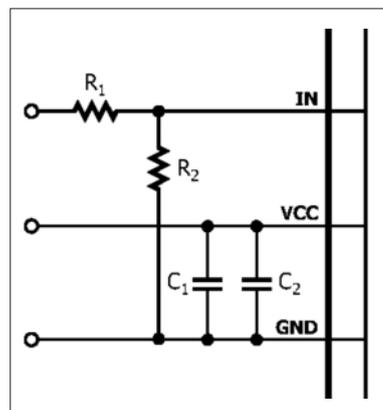
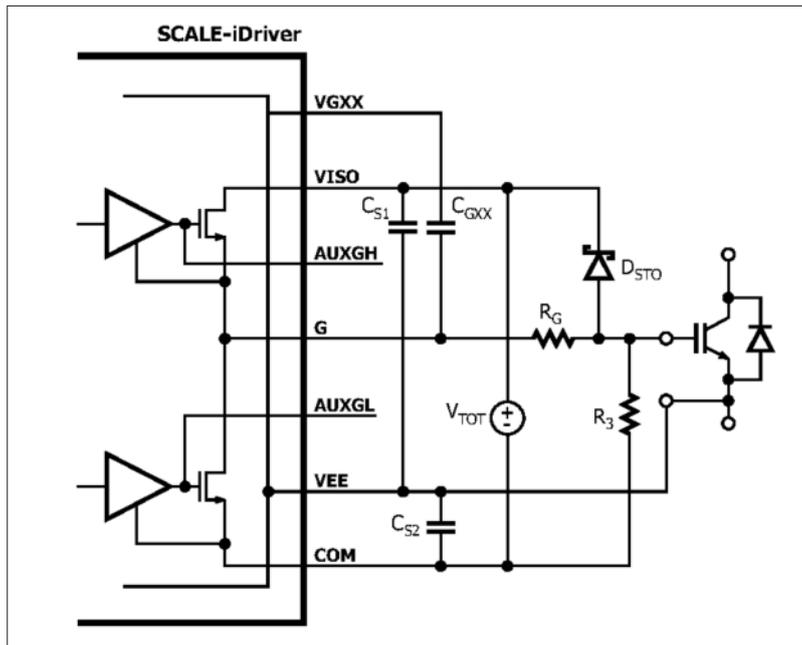

Figure 3: Recommended circuitry for increased IN logic levels (for  $R_1 = 3.3 \text{ k}\Omega$  and  $R_2 = 1 \text{ k}\Omega$  the IN Logic Level is 15 V)
Figure 4: SID1102K without external booster stage incorporating gate resistor RG
If the physical distance between the controller and the iDriver is large or if a different logic level is required, the resistive divider in Figure 3 is recommended. This solution adjusts the logic level as necessary and will also improve the driver's noise immunity.
The gate of the power semiconductor switch should be connected to the iDriver output via pin G, using a suitable gate resistor  $R_G$  as shown in Figure 4.
Figure 4 show the schematic and typical components used for a SID1102K design without a booster stage, in which the primary-side supply voltage ( $V_{CC}$ ) will be connected between VCC and GND pins and supported through supply bypass ceramic capacitors C1 (4.7  $\mu$ F typically) and C2 (470 nF typically). If the command signal voltage level is higher than the rated IN pin voltage, a resistive voltage divider should be used (Figure 3).
Additional capacitor CF can be used to provide input signal filtering as shown in Figure 4. The filter time  $\tau$  can be calculated according to equation (1):
To avoid parasitic power-switch-conduction during system power-on the gate is connected to COM through 22 kΩ resistor R3, as shown in Figure 4.